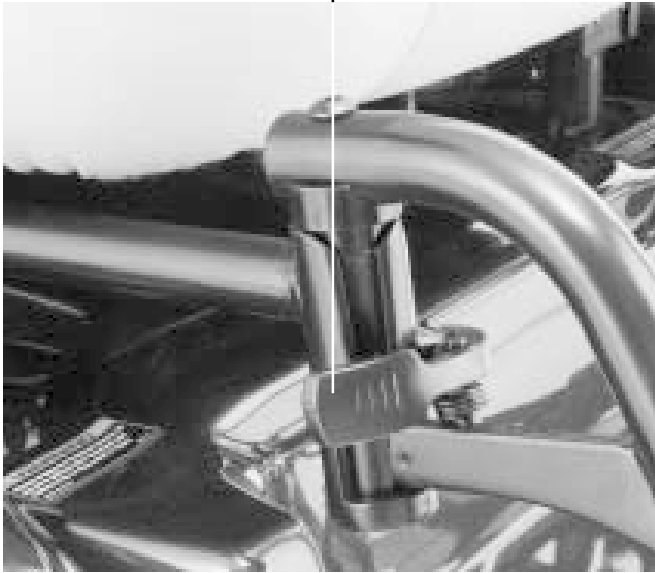

Figure 13. Swing-Away Footrests
1. Push in the release lever. See figure 13.